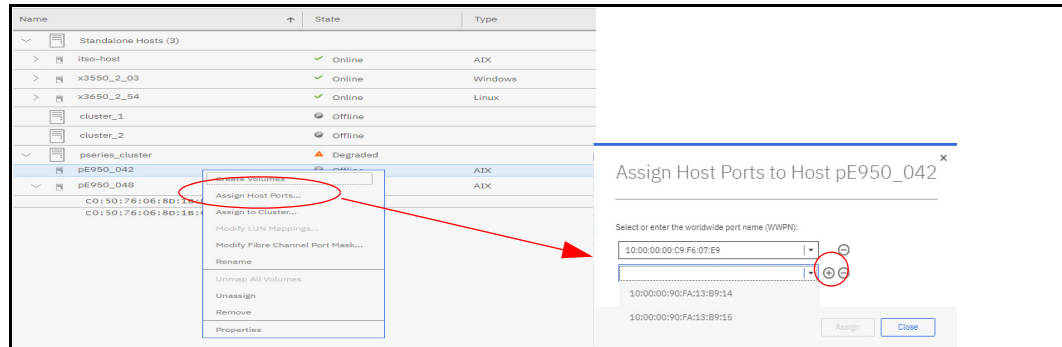

Figure 9-62 Assign Host Ports to Host
1. From the Hosts window, select the host to which to assign the host port. Either right-click, or from the Actions tab, select **Assign Host Port**, as shown in Figure 9-62.
Select one of the WWPNs that are shown in the drop-down list, or manually enter the WWPN of the HBA of the host that you are adding. You can select multiple WWPNs by clicking +, as shown in Figure 9-62. Click **Assign** to complete.